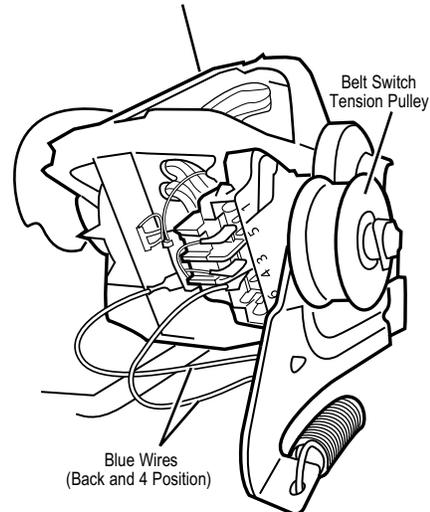

Figure 8. Checking the belt switch.
- Check the belt switch by measuring resistance between the two blue wires, as shown in Figure 8, while pushing up the belt switch tension pulley.